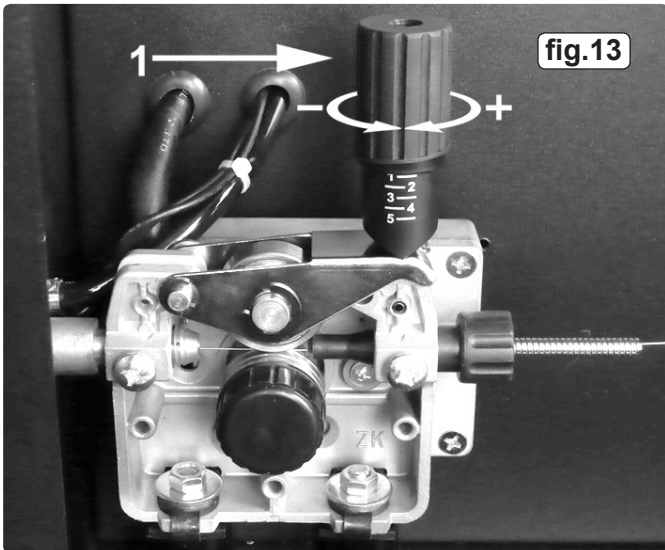

fig.13
3.9.3 Push down the pressure roller carrier onto the wire feed roller and hold it down. Lift up the locking/wire tension knob so that it enters the slot in the pressure roller carrier and snaps into the indent in its top surface. See fig.13. Rotate the tension knob to a medium setting i.e. between 2 and 3.
- 3.10 **SETTING WIRE TENSION.** Adjust the wire tension by rotating the wire tension knob. Turn clockwise to increase the tension and anticlockwise to decrease the tension. See (1) in fig.13. **IMPORTANT:** Too little or too much tension will cause problematic wire feed and result in poor welding.